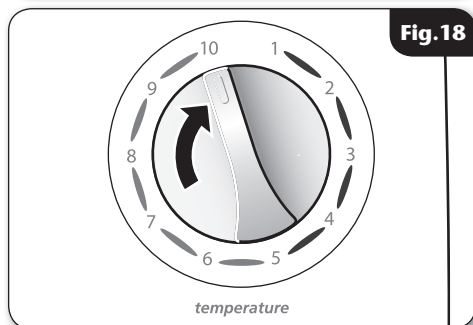

Fig.18
- Select the minimum flow position (**fig.18**).